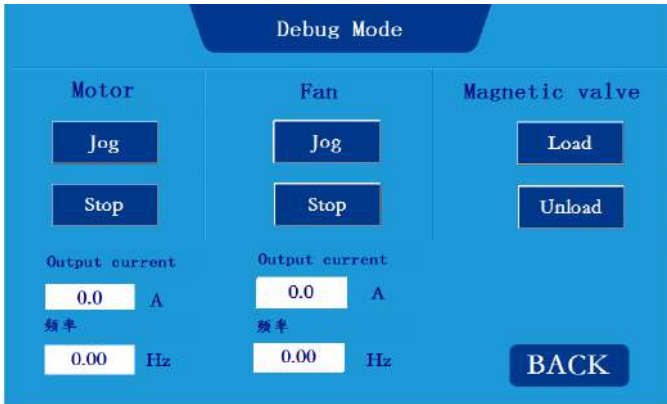

Figure 4-10 Debug mode interface
Step 5: On the system configuration interface, click **Debug Mode**. The page shown in Figure 4-10 is displayed.